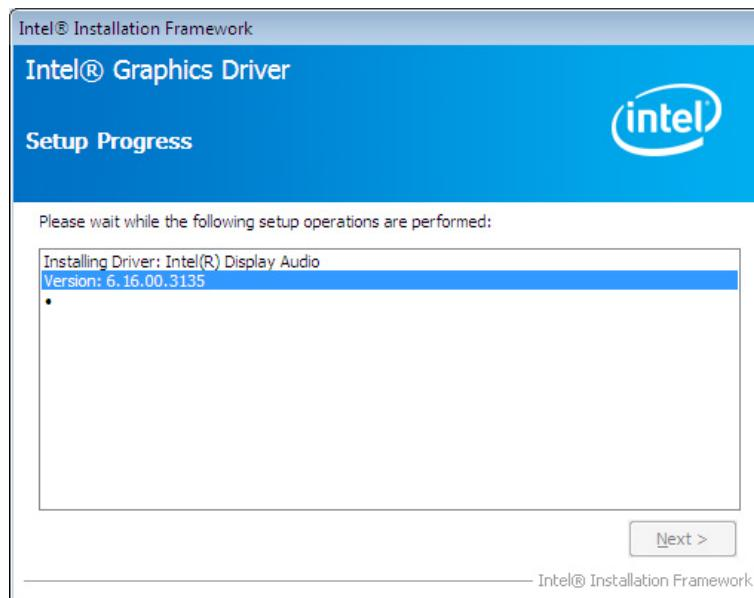

Figure 6-11: Graphics Driver Setup Progress
Step 10: Setup Operations are performed as shown in **Figure 6-11**.